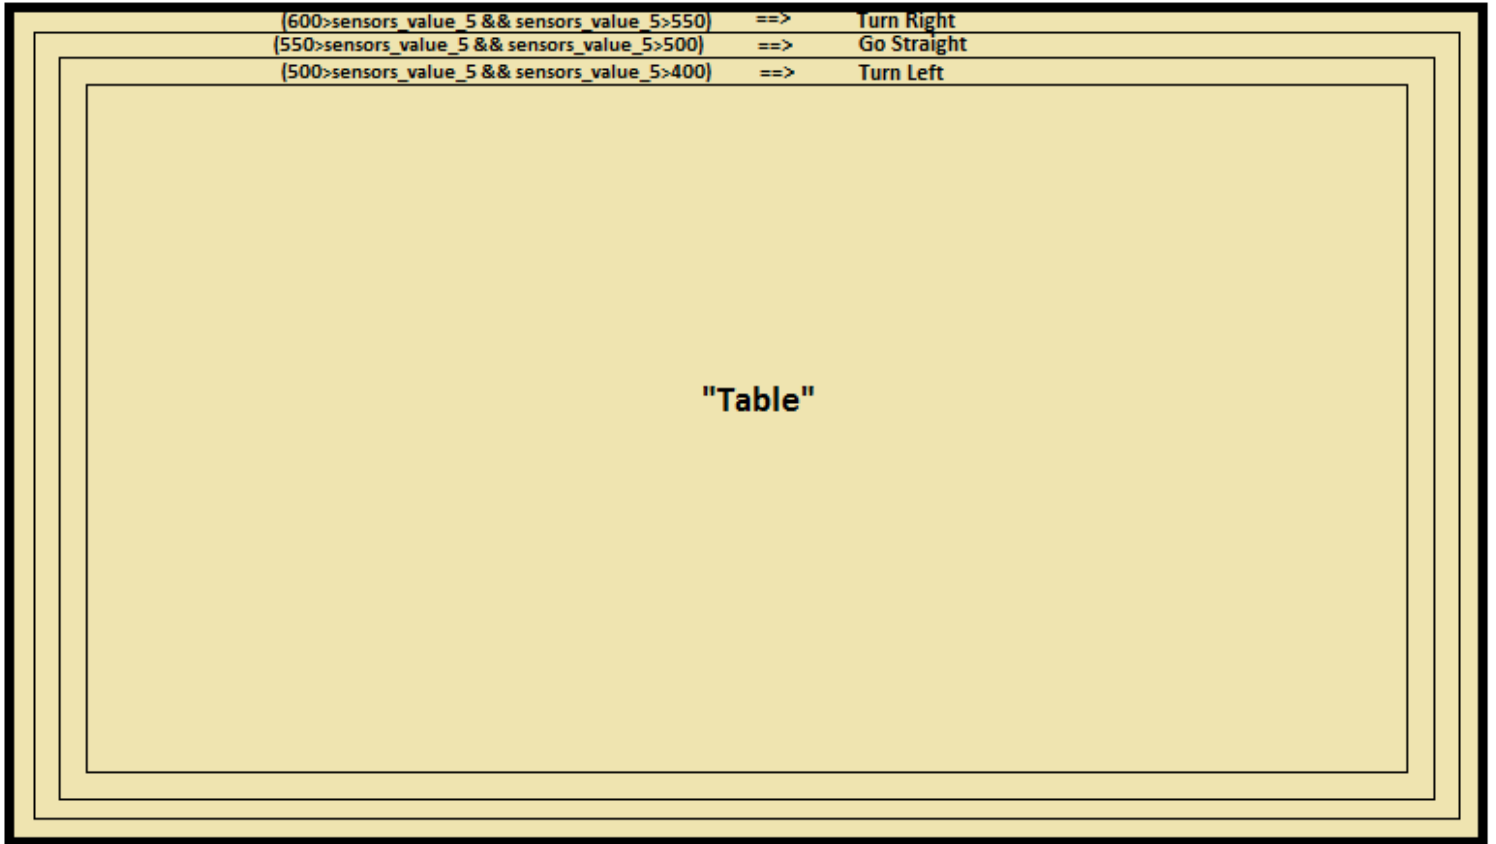

Figure 1
3. In third “if condition”, till the values of all the sensors 0,1 AND sensors 6,7 is less than 500 and the value of sensor 5 ranges from 500 to 550 it will go straight so in this condition, the robot is maintaining a particular distance of 1 cm from wall. As shown in fig 1. The syntax is shown below:
4. In forth “if condition”, till the values of all the sensors 0,1 AND sensors 6,7 is less than 500 and the value of sensor 5 ranges from 400 to 500 which means the robot is going far from the wall, so it will take slight left turn and will come in the third if condition to maintain 1 cm distance from wall. As shown in fig 1. The syntax is shown below:
5. In fifth “if condition”, till the values of all the sensors 0,1 AND sensors 6,7 is less than 500 and the value of sensor 5 ranges from 550 to 600 which means the robot is going near to the wall, so it will take slight right turn and will come in the third if condition to maintain 1 cm distance from wall. As shown in fig 1. The syntax is shown below: